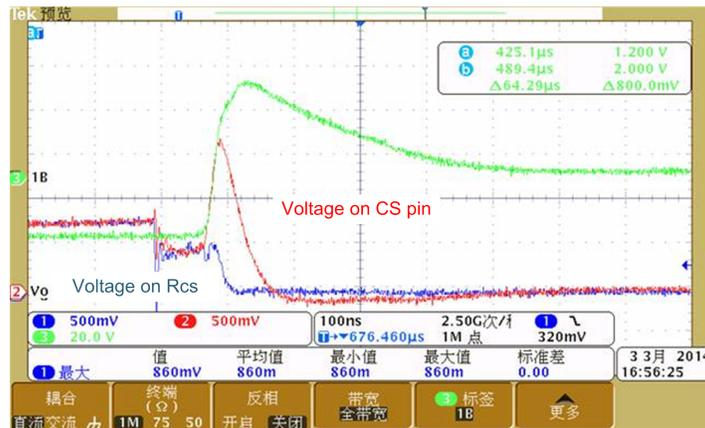

Figure 6. OCP Caused by the Noise
**Phenomenon:** The typical saturation for a transformer is illustrated in Figure 6. The current through  $R_{CS}$  increases rapidly when the transformer becomes saturated.